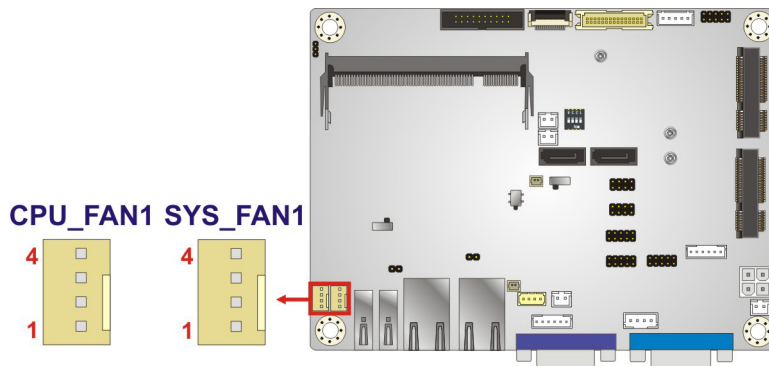

Figure 3-6: Fan Connector Locations
- CN Location: See **Figure 3-6**